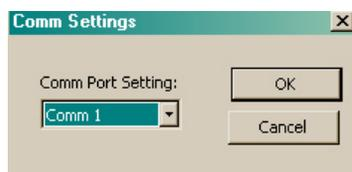

Figure 12: Select "Comm" port
6. From the **Configuration** option in the menu bar, select **Set Comm Port**. The Comm Settings window opens (*Figure 12*).